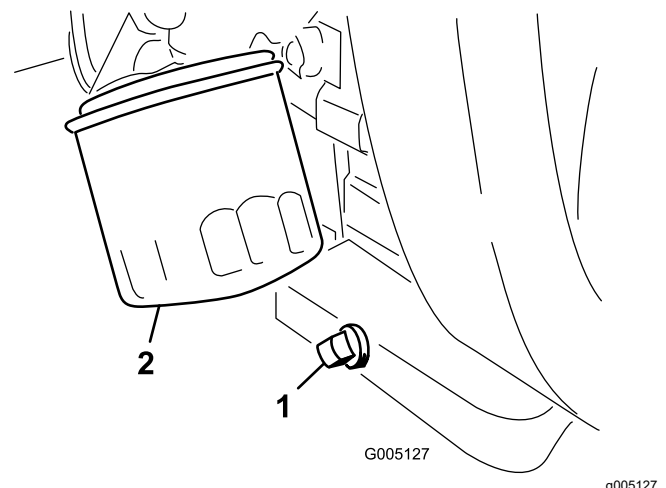

Figure 33
1. Remove the drain plug (Figure 33) and let the oil flow into a drain pan.
2. Clean the threads of the drain plug, apply PTFE sealant, and install the drain plug (Figure 33).
3. Remove the oil filter (Figure 33).